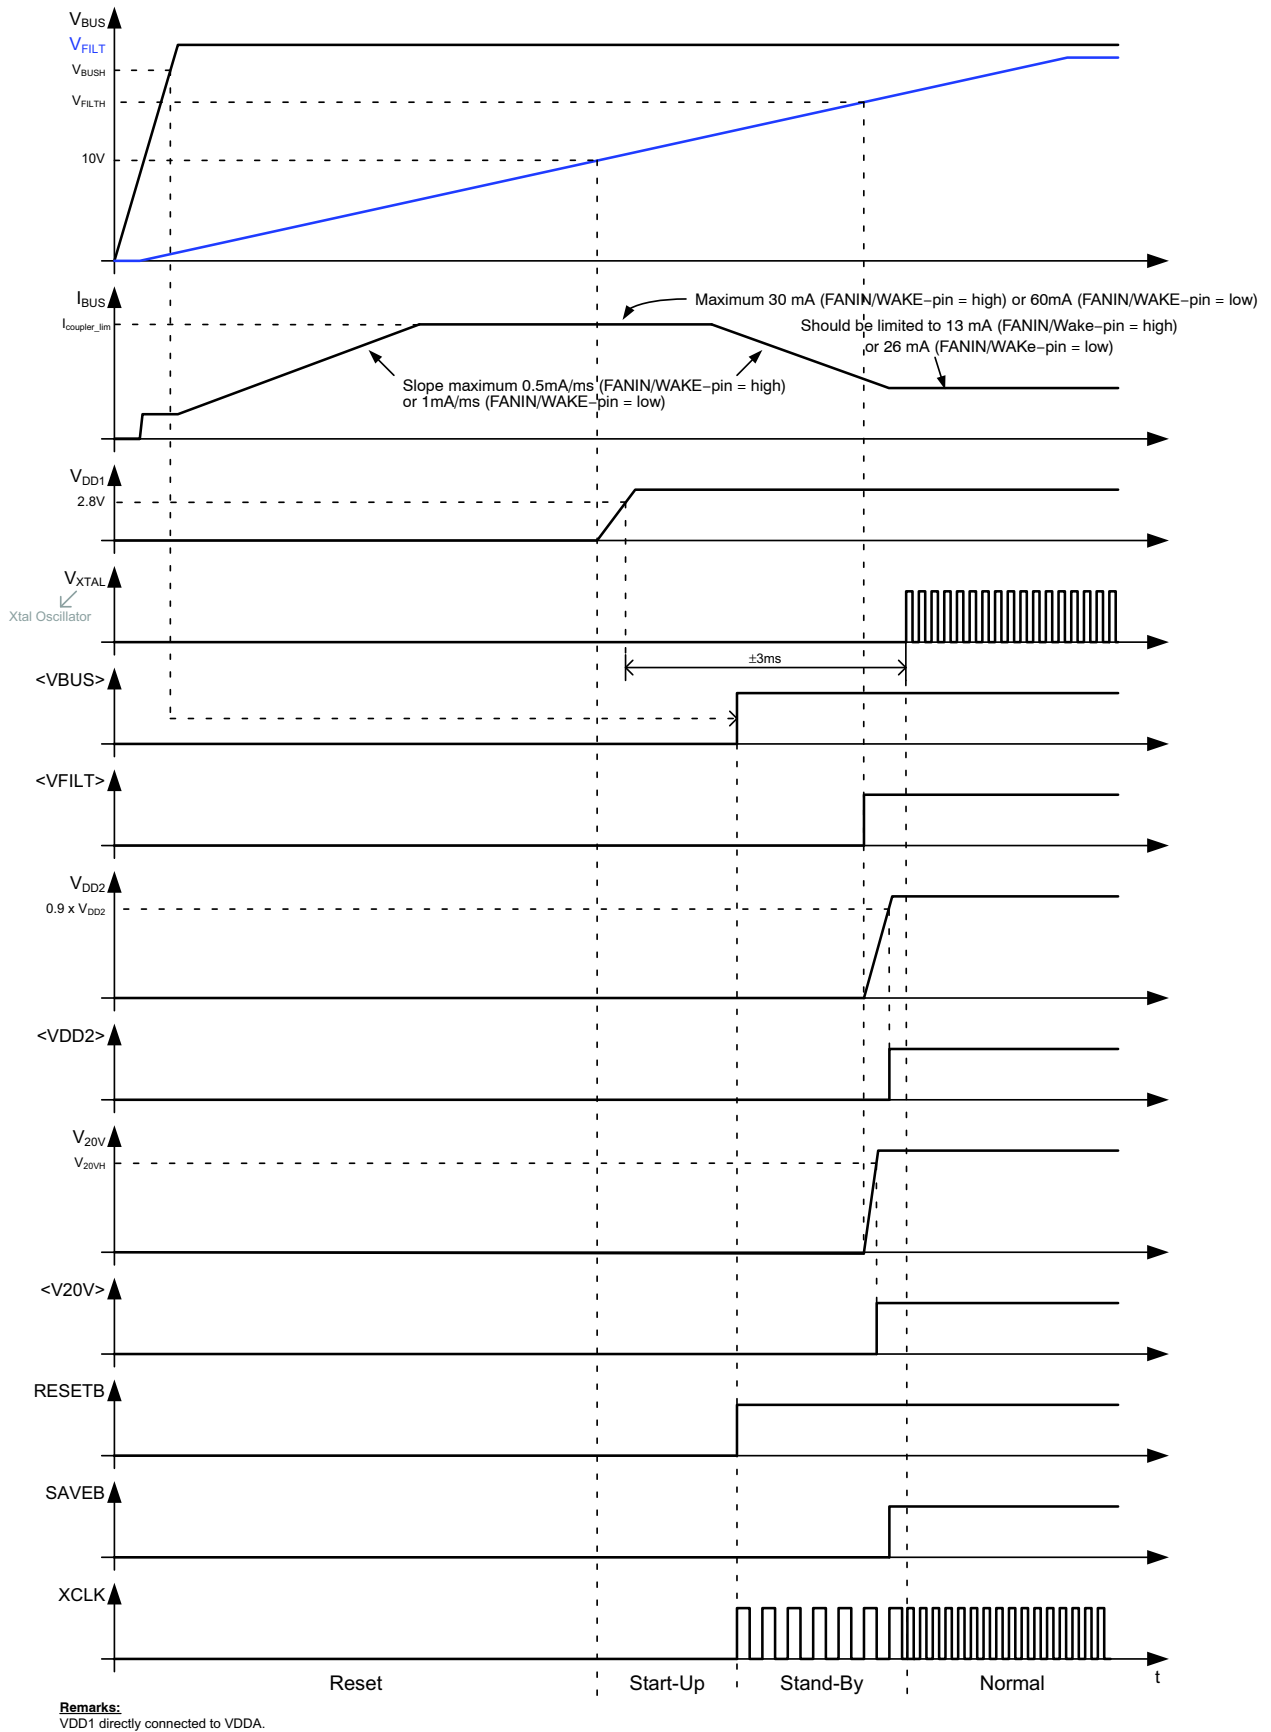

Figure 21. Start-Up Behavior
After power-up, a 4 MHz (Note 3) clock signal will be present on the XCLK–pin during Stand-By. When Normal State is entered, a 8 or 16 MHz clock signal will be present on the XCLK–pin. See also Figure 21.
Figure 21 gives a detailed view on the start-up behavior of NCN5120. After applying the bus voltage, the filter capacitor starts to charge. During this Reset State, the current drawn from the bus is limited to  $I_{coupler}$  (for details see the KNX Standards). Once the voltage on the filter capacitor reaches 10 V (typ.), the fixed DC-DC converter (powering VDDA) will be enabled and the device enters the Start-Up State. When  $V_{DD1}$  gets above 2.8 V (typ.), the OTP memory is read out to trim some analog parameters (OTP memory is not accessible by the user). When done, the Stand-By State is entered and the RESETB-pin is made high. If at this moment  $V_{BUS}$  is above  $V_{BUSH}$ , the VBUS-bit will be set (<VBUS>, see System Status Service, p33). After approx. 2 ms the Xtal oscillator will start. When  $V_{FILT}$  is above  $V_{FILT_{HDC2}}$  and V20V will be started. When the Xtal oscillator has started, no Thermal Warning (TW) or Thermal Shutdown (TSD) was detected and the VBUS-, VFILT-, VDD2- and V20V-bits are set, the Normal State will be entered and SAVEB-pin will go high.